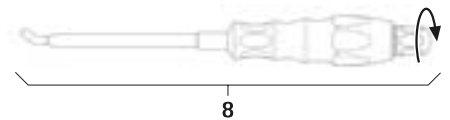

Fig. 8
- Mount rod insertion instrument **8**, see Fig. 8.